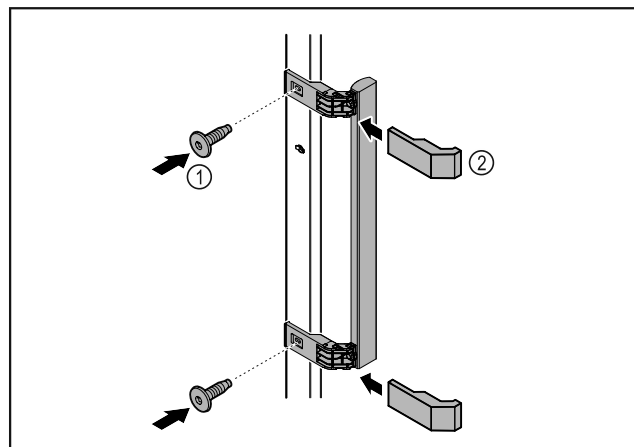

Fig. 4
- Attach handle from accessory kit to the door using the screws supplied Fig. 4 (1).
- Put on cover *Fig. 4 (2)*.